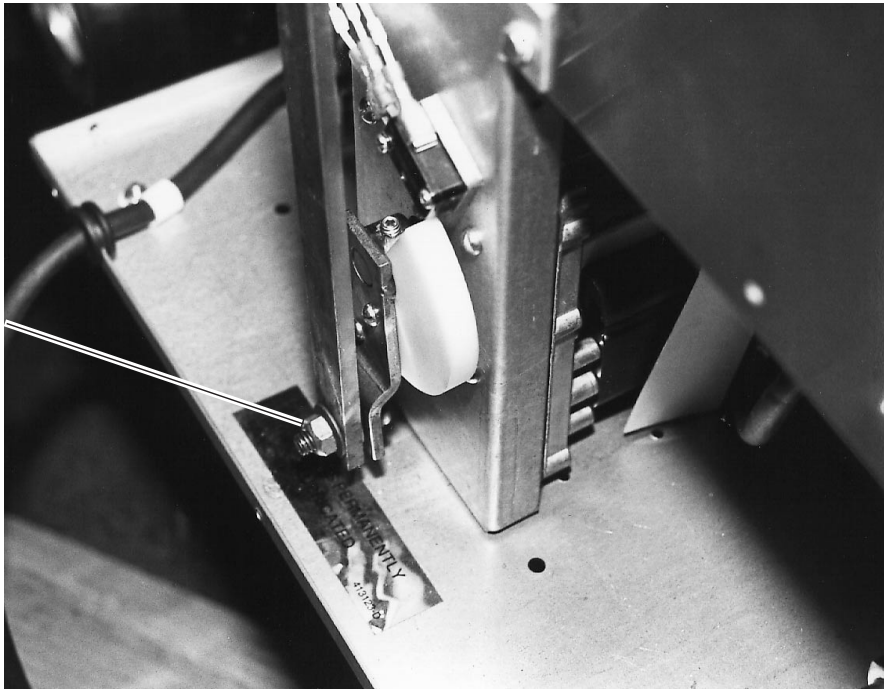

Fig. 65
2. With a 1/2" wrench or socket remove the lift bar and cam assembly holding nut. (Fig. 65)
4. With an offset flat blade screwdriver remove the screws mounting the cam to the lift bar. (Fig. 65)